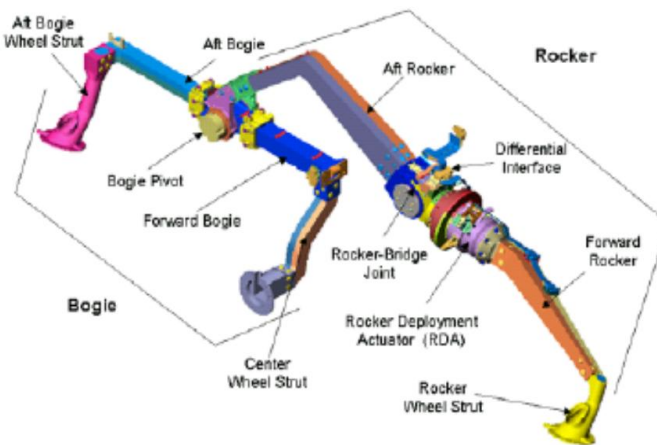

Figure 2. Left-side of Rover Rocker Bogie Assembly
5. "Rocker-Bogie" shown in Figure 2